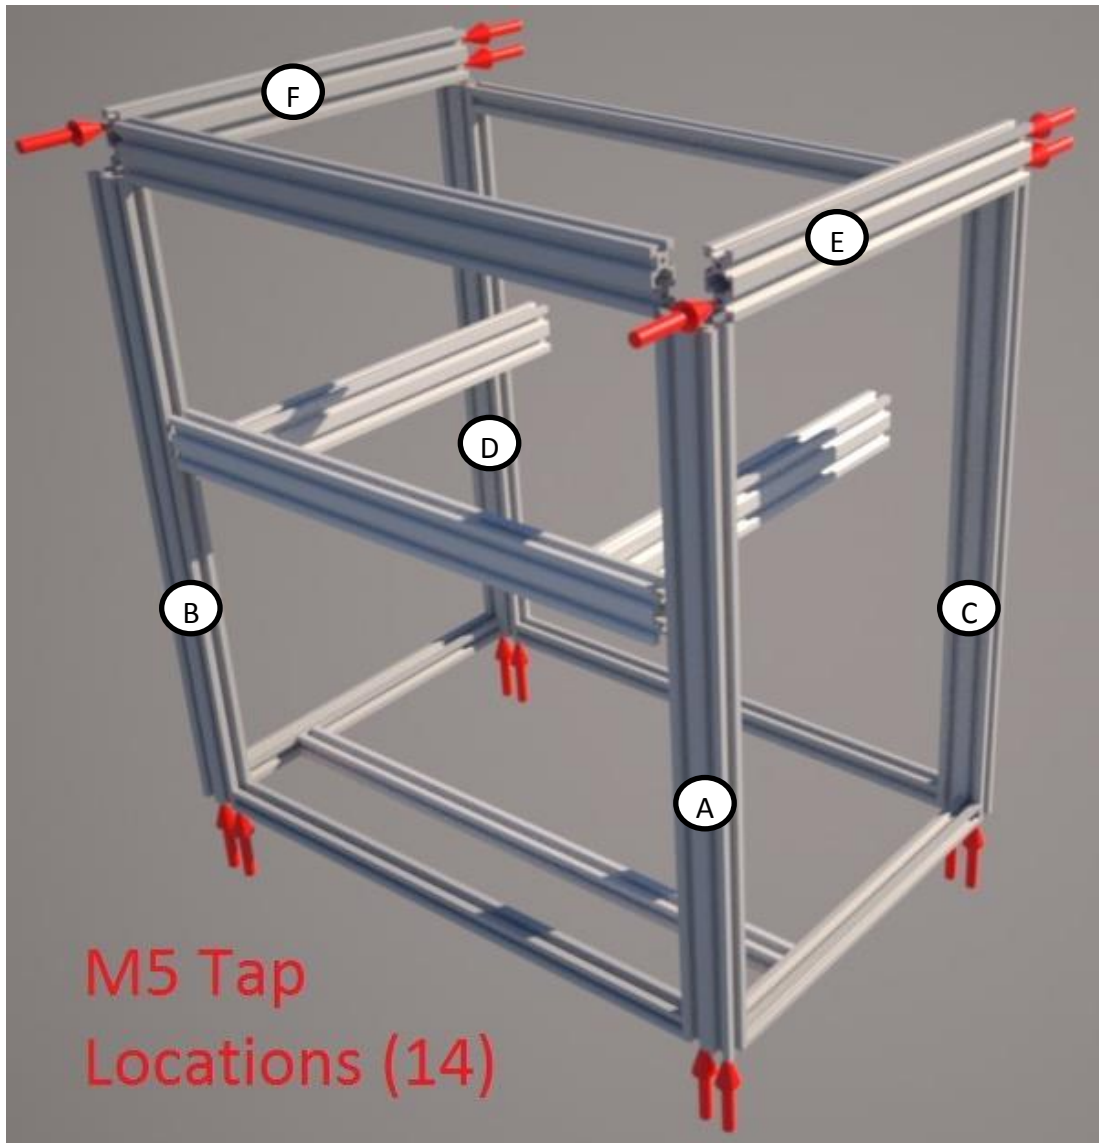

Figure 3: M5 Thread Tap Locations
- Figure 3 shows which locations on the V-slot rails need to be M5 thread tapped. V-slot ends are predrilled correctly to the size needed for M5 threads. Use oil on the thread tap, repeatedly reverse the tap to avoid jamming and breaking. Practice thread tapping on some of the leftover scrap V-slot pieces. Here is an example thread tapping video.
- Attach remaining bolts which thread into tapped ends indicated in Figure 3 (14 total).